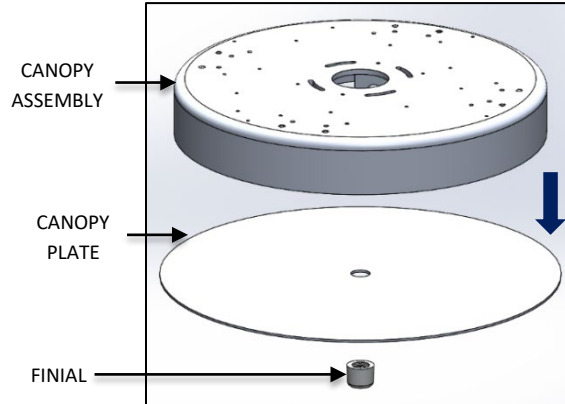

FIG. 14 – CANOPY DIS-ASSEMBLY
1. Dis-assemble the FINIAL and the CANOPY PLATE from the CANOPY ASSEMBLY as shown in FIG. 14 below.